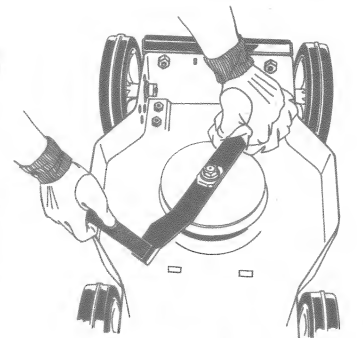

FIGURE 12
- (1) UNPLUG MOWER! (2) Wear gloves and turn mower over to expose blade (Figure 12). (3) Grasp blade as shown in Figure 12 using a rag to protect hand from cutting edge. (4) Sharpen each end of blade with a file, trying to remove an equal amount of metal from each end to maintain blade balance.